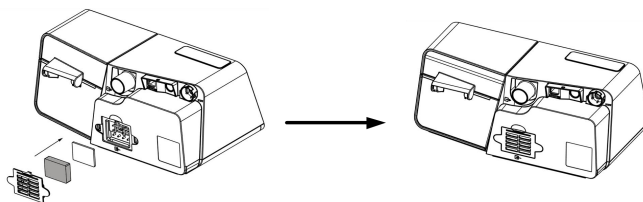

Fig. 18-9
(3) Install the filter cap containing the reusable air filter / disposable ultra-fine filter to the device, as shown in Fig. 18-9.